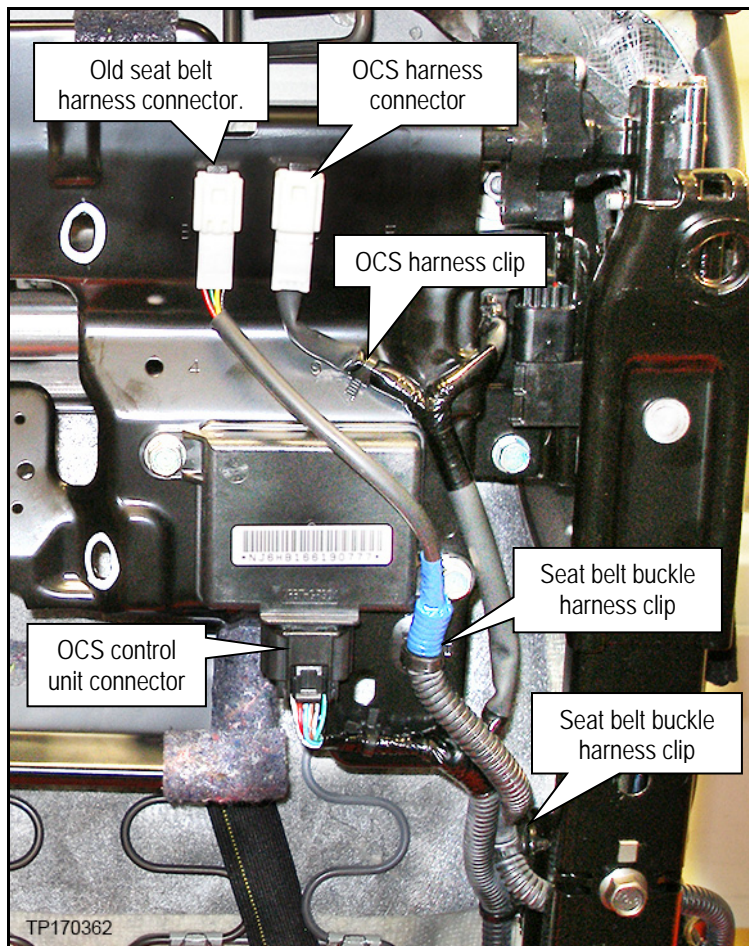

Figure 4
17. From under the front passenger seat, disconnect only the OCS control unit electrical connector, OCS harness connector, OCS harness clips, seat belt harness connector and seat belt buckle harness clips shown in Figure 4.